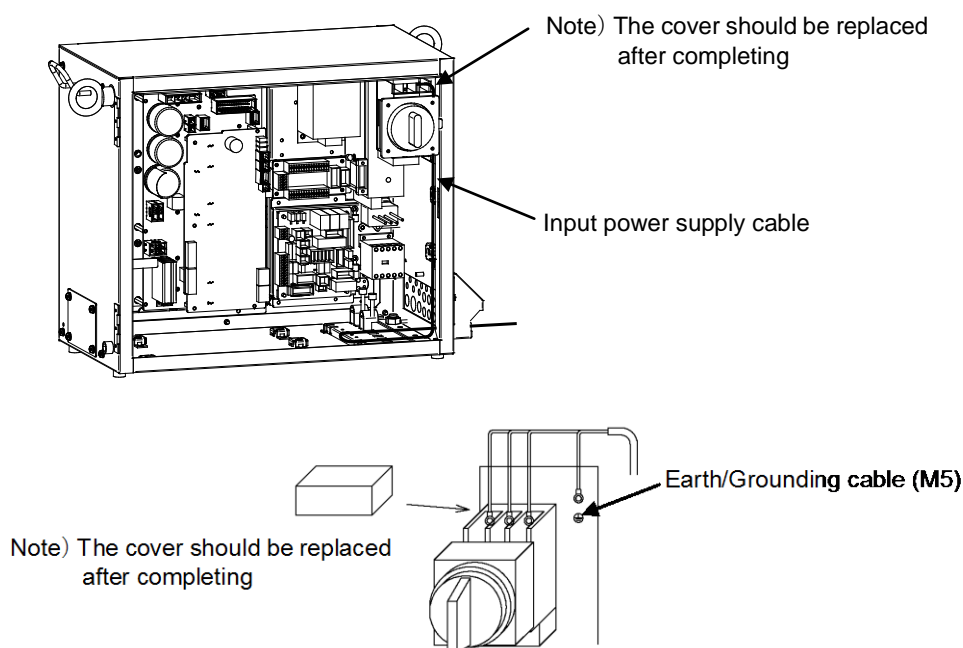

Fig.3.3.3.1 (a) Connecting the input power cable
- (1) Fig.3.3.3.1 (a) shows the method of connecting the input power supply cable.
- (2) Use the input power supply cable according to the following Table 3.3.3.1 (a). However, the input power supply cable according to the breaker or the fuse of the input power supply (power distribution panel) connected to the robot controller must be used.
- (3) Provide a class-D or better ground.